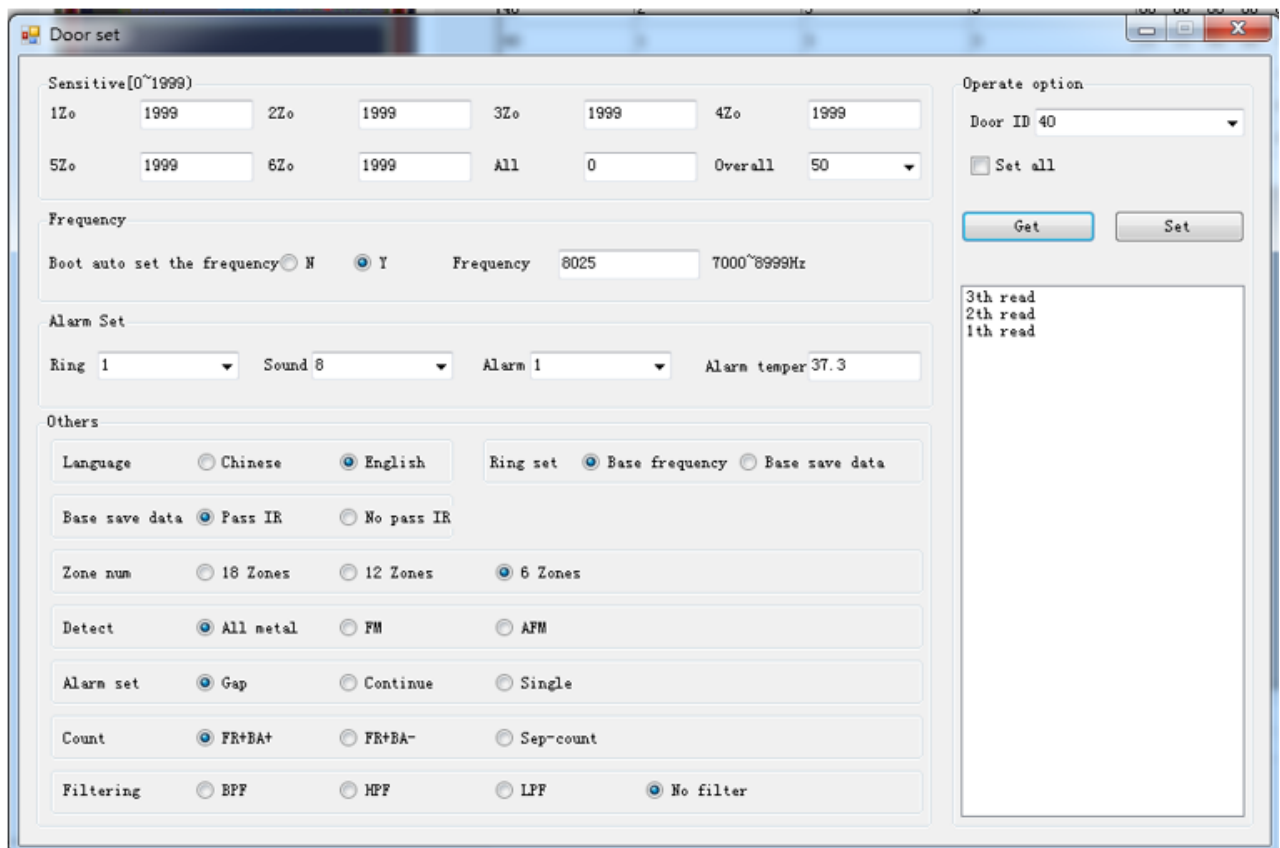

Figure 13
After the security door is connected successfully, click the setting item on the left of the menu bar in the main interface of the software and select "Door set" to enter the security door setting interface, as shown in Figure 13.
- a. To obtain the parameter information of the connected walk through metal detector, you need to select the ID number of walk through metal detector in the list on the left side of Set interface, then return to Com interface and click Get. The parameter information of the walk through metal detector of the selected ID is displayed on the interface shown in Figure 13.
Note: The functions of the interface in Figure 13 show all the function parameters of the walk through metal detectors of the company. The functions of different models walk through metal detectors are different, referred to the user manual. If the setting is out of range, it will be invalid.